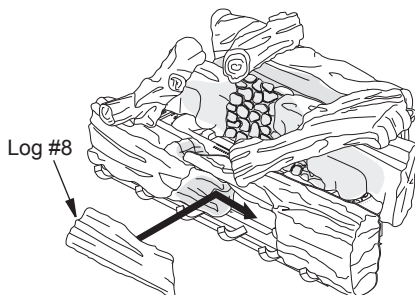

Figure 25 - Control Cover Log (Log #8) Placement
- Slide control cover log (log #8) into place between front logs #3 and #4 (see Figure 25).